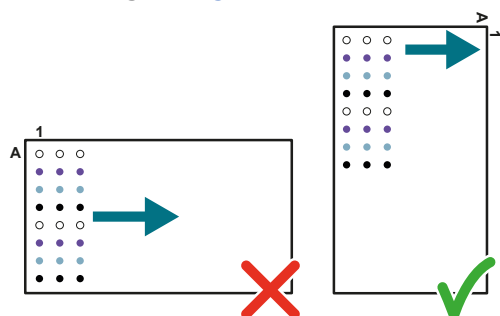

Figure 46. Rotating the Sample Reagent Plate
**NOTE:** Rotate the Sample Reagent Plate (384-well) 90 degrees clockwise to facilitate pipetting (shown to the right of Figure 46).